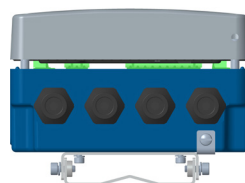

Figure 18: Lift cover from base
4. Insert a wire for earth ground under the grounding bracket (see Figure 18) and screw it down tight.